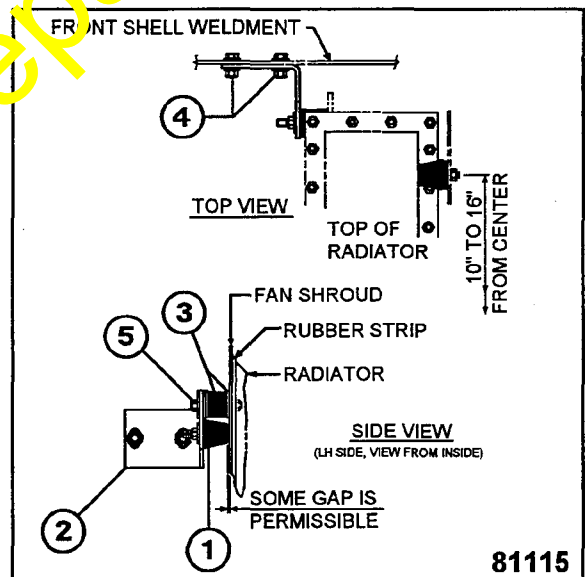

Figure 4
8. Install 1431467H1 bumpers (1, Figure 4) in lower hole of 1436367H1 and 1436368H1 flat washer and 25520R1 hex nut. Do not tighten until both sides are assembled.
9. Install 127890H45 connector cushion and one 25552R1 flat washer (3) in top hole of radiator where support rod mounting bracket was removed. Tighten hand tight.
10. Install mounting brackets (2) with two 180122 bolts, four 25724R1 flat washers and two 25522R1 hex nuts (4) to front shell weldment.
11. Install two 25552R1 flat washers to connector cushion before inserting into mounting bracket (2); install 25552R1 flat washer and 25520R1 hex nut (5). Tighten to 16 lbf ft.
12. Adjust bumpers (1) in bracket slot to allow full contact with radiator. Tighten nuts to 16 lbf ft.
13. Tighten mounting bracket nuts (4) to 28 lbf ft.